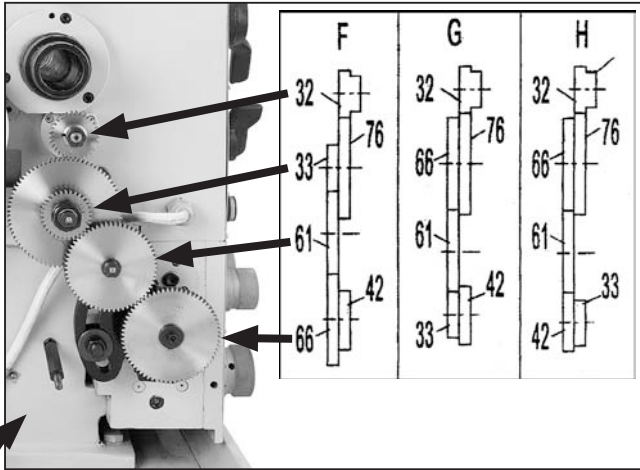

Figure 52. Change gear and chart relationship.
—"F" is the first letter in the sequence and indicates that the change gears must be rearranged in the "F" sequence as shown in **Figure 52**. The change gears are located on the left-hand side of the lathe, behind the headstock gear cover shown in.
4. Leaving 0.003"–0.005" backlash between gear teeth, arrange the change gears to match the order under "F" (see **Figure 52**).